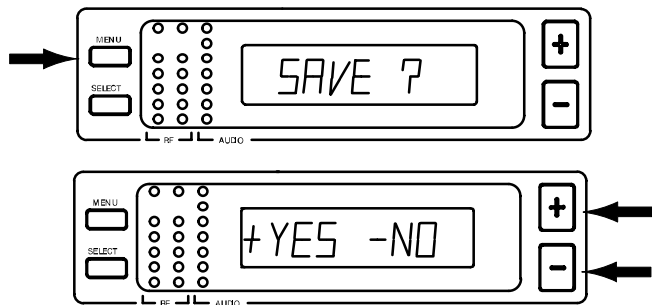
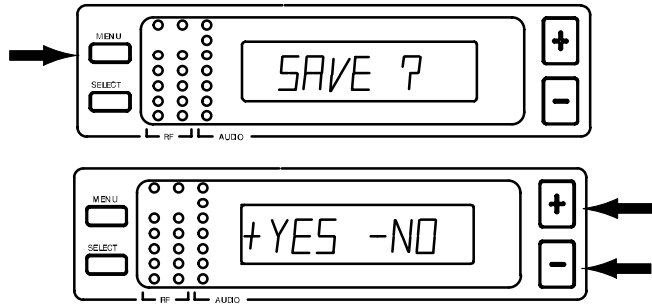

FIGURE 15
FIGURE 20
- When the new Group/Channel has been completely entered, press the MENU button. "SAVE?" will appear on the display, followed by "+ YES - NO". Press the "+" button to save the new Group/Channel setting or press the "-" button to return to the original setting. See Figure 15.
- Press the MENU button to enter the desired frequency, as shown in Figure 15. SAVE? will appear on the display, followed by "+ YES - NO". Press the "+" button to save the new frequency, or press the "-" button to return to the original setting. See Figure 20.